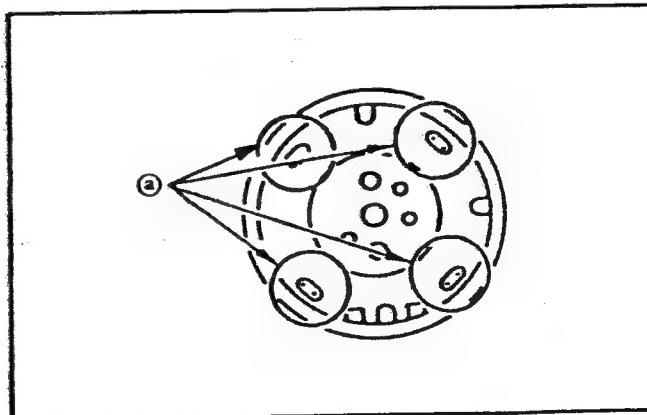

Fig. II-108
* Parts (a) in the Fig. II-108 are plug-in type.